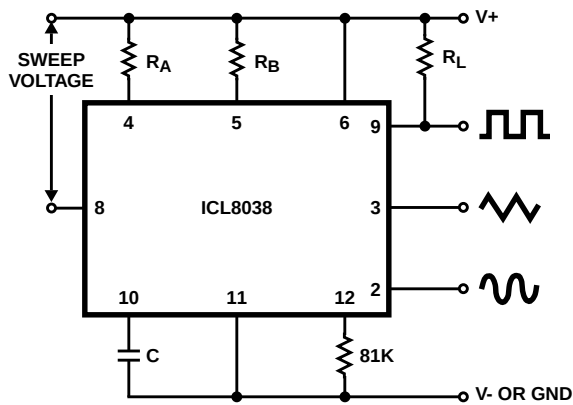

FIGURE 5B. CONNECTIONS FOR FREQUENCY SWEEP
- The f_{HI} and f_{LO} frequencies can be obtained by connecting pin 8 to pin 7 (f_{HI}) and then connecting pin 8 to pin 6 (f_{LO}). Otherwise apply Sweep Voltage at pin 8 ($\frac{2}{3} V_{\text{SUPPLY}} + 2\text{V}$) $\leq V_{\text{SWEEP}} \leq V_{\text{SUPPLY}}$ where V_{SUPPLY} is the total supply voltage. In Figure 5B, pin 8 should vary between 5.3V and 10V with respect to ground.
For larger FM deviations or for frequency sweeping, the modulating signal is applied between the positive supply voltage and pin 8 (Figure 5B). In this way the entire bias for the current sources is created by the modulating signal, and a very large (e.g. 1000:1) sweep range is created ($f = 0$ at $V_{\text{SWEEP}} = 0$). Care must be taken, however, to regulate the supply voltage; in this configuration the charge current is no longer a function of the supply voltage (yet the trigger thresholds still are) and thus the frequency becomes dependent on the supply voltage. The potential on Pin 8 may be swept down from V_+ by $(1/3 V_{\text{SUPPLY}} - 2V)$.